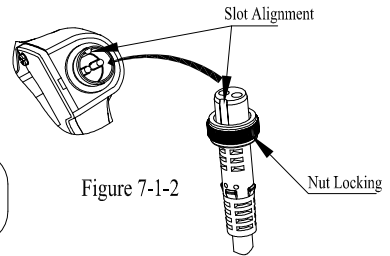

Figure 7-1-2
2. Insert the other end of the power cord into the electric reel socket and lock it with nuts (Figure 7-1-2).